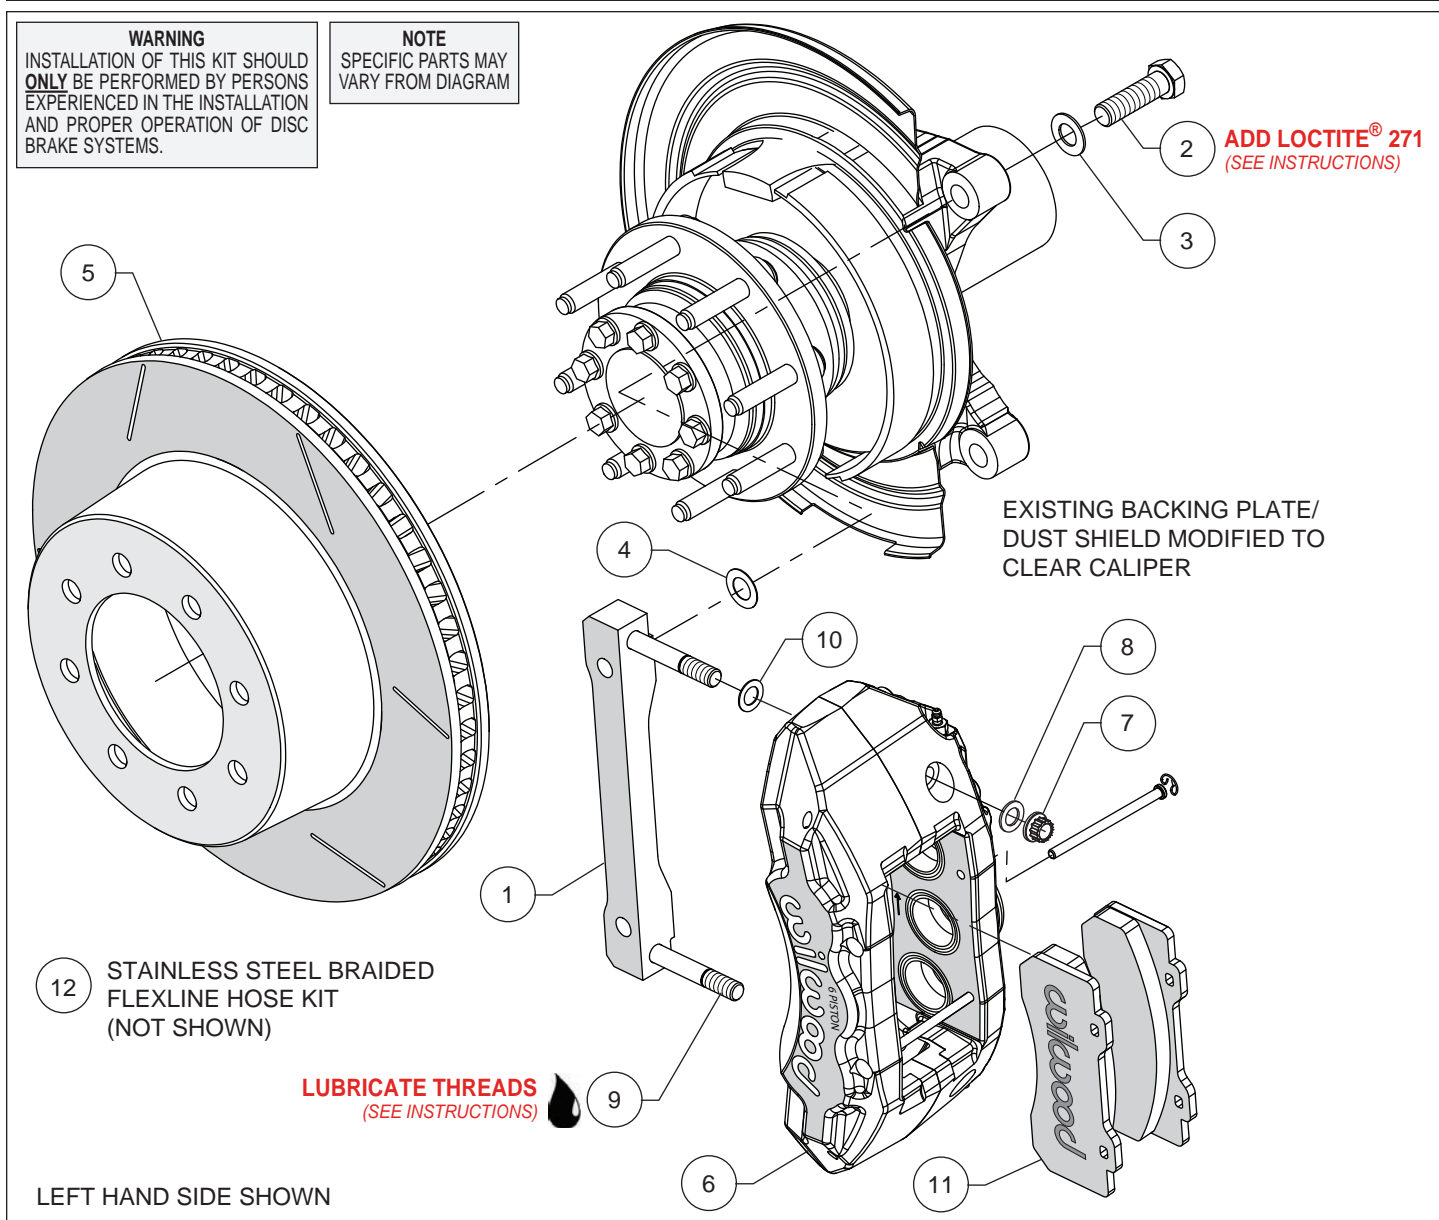
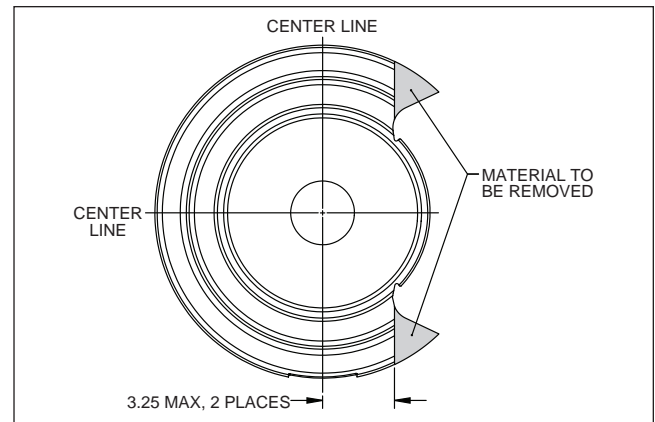

Figure 1. Typical Installation Configuration
Figure 3. Backing Plate / Dust Shield Modifications
- The rear backing plate/dust shield needs to be modified as shown in Figure 3 to clear the new Wilwood caliper mounting bracket (1). **NOTE:** It is recommended that the backing plate be removed before modification, and the modifications be performed by a qualified machine shop. After backing plate removal, cut the dust shield 3.25" maximum from the vertical center line as shown in Figure 3. Temporarily mount the caliper mounting bracket as shown in Figure 1. Examine the fit of the bracket against the OE caliper mounting tabs and verify that the bracket mounts flush.
**Assembly Instructions** (numbers in parenthesis refer to the parts list and Figure 1 on the preceding pages):
- The caliper mount bracket (1) should initially be installed with clean, dry threads on the mounting bolts. Orient the bracket as shown in Figure 1 and Photo 1, and install using bolts (2) and washers (3). Initially place one .024 thick shim (4) on each bolt between the bracket and upright, Figure 1. Temporarily tighten the mounting bolts. **NOTE:** The bracket must fit squarely against the mount bosses on the upright. Inspect for interference from casting irregularities, machining ridges, burrs, etc. Later, after the caliper alignment has been checked, the mount bolts will be secured using red *Loctite*® 271.
- NOTE:** This kit contains distinct right and left hand calipers that must be mounted in a specific direction, as described below. Lubricate the caliper mounting studs (9) with lightweight oil. Initially place one .032" thick shim (10) on each stud as shown in Figure 1 and Photo 2. Mount the caliper (6) onto the bracket (1) using lock nuts (7) and washers (8), Figure 1. Ensure that the caliper is mounted so that the largest pistons are at the rotor exit end of the caliper, in relation to the direction of rotor rotation. Temporarily tighten the lock nuts and view the rotor through the top opening of the caliper. The rotor should be centered in the caliper, Photo 3. If not, adjust by adding or subtracting shims (4) between the bracket and the upright. Always use the same amount of shims on each of the two mounting bolts. Once the caliper alignment is correct, remove the bracket mounting bolts (2) one at a time, apply red *Loctite*® 271 to the threads, and torque to 120 ft-lb.